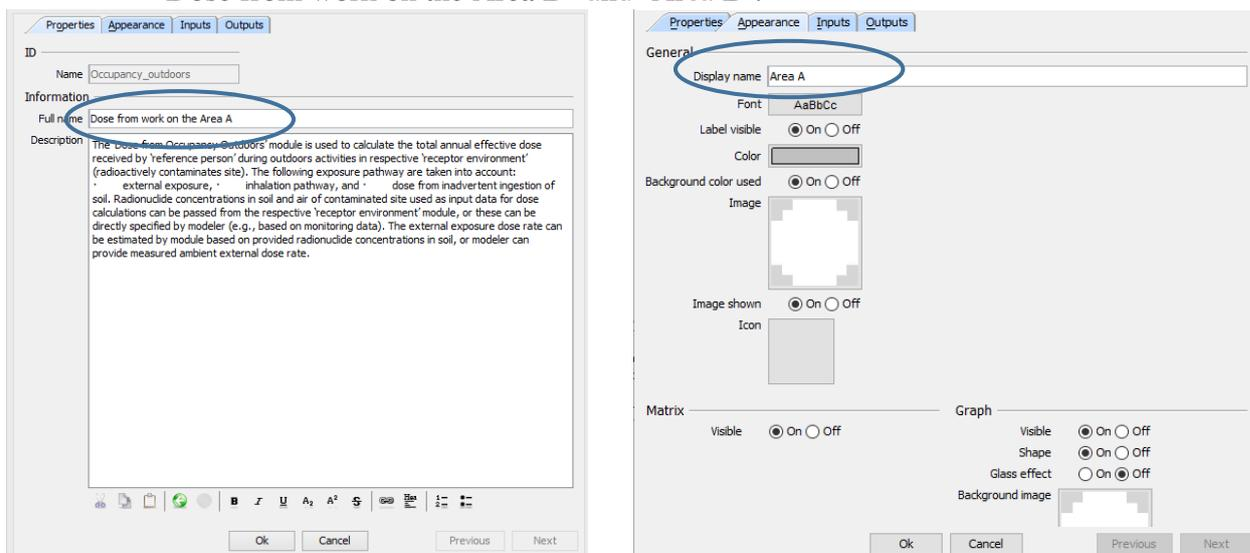

FIG 12. Renaming the ‘Dose from occupancy outdoors’ modules.
2. In the tab ‘*Properties*’ change the field ‘*Full name*’ to ‘Dose from work on the Area A’ (FIG 12).